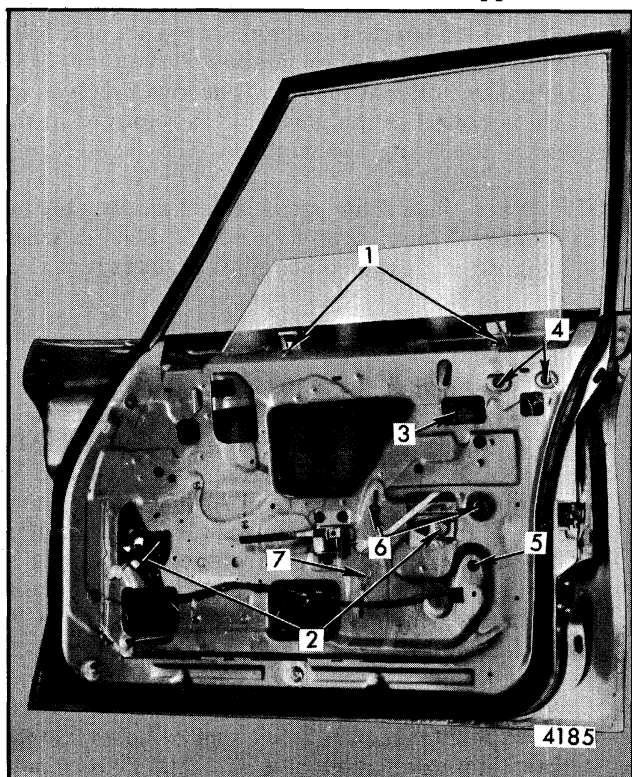

Fig. 5-106-Window Removal and Adjustment - "B-35, 45, 69" Styles
1. **WINDOW NOT PARALLEL ALONG UPPER EDGE WITH DOOR UPPER FRAME** - A rotated window condition (glass cocked in opening) can be corrected by loosening inner panel cam attaching screws ("6", Fig. 5-106) and raising or lowering front edge of glass in relation to rear edge of glass, as required. Torque inner panel cam attaching screws to 60 to 90 inch-pounds.
2. **WINDOW TOO HIGH OR TOO LOW IN DOWN POSITION** - Loosen window down-travel bumper support ("7", Fig. 5-106) and raise or lower window to desired full-down glass height. Then, position bumper support against lower edge of glass and tighten attaching screws to 60 to 90 inch-pounds.
3. **WINDOW MECHANISM BINDS WHEN OPERATING** - The rear guide is adjustable in and out ("3", Fig. 5-106) and fore and aft ("4", Fig. 5-106) to relieve a binding door window assembly. In addition, excessive outboard adjustment of the belt trim support retainers ("1", Fig. 5-106) may result in a binding window. The
2. Loosen window belt trim support retainers ("1", Fig. 5-106).
3. Operate window to a three-quarter-down position and remove window lower sash channel cam to glass attaching stud nuts ("2", Fig. 5-106). Tilt front edge of glass downward and remove window inboard of door upper frame.